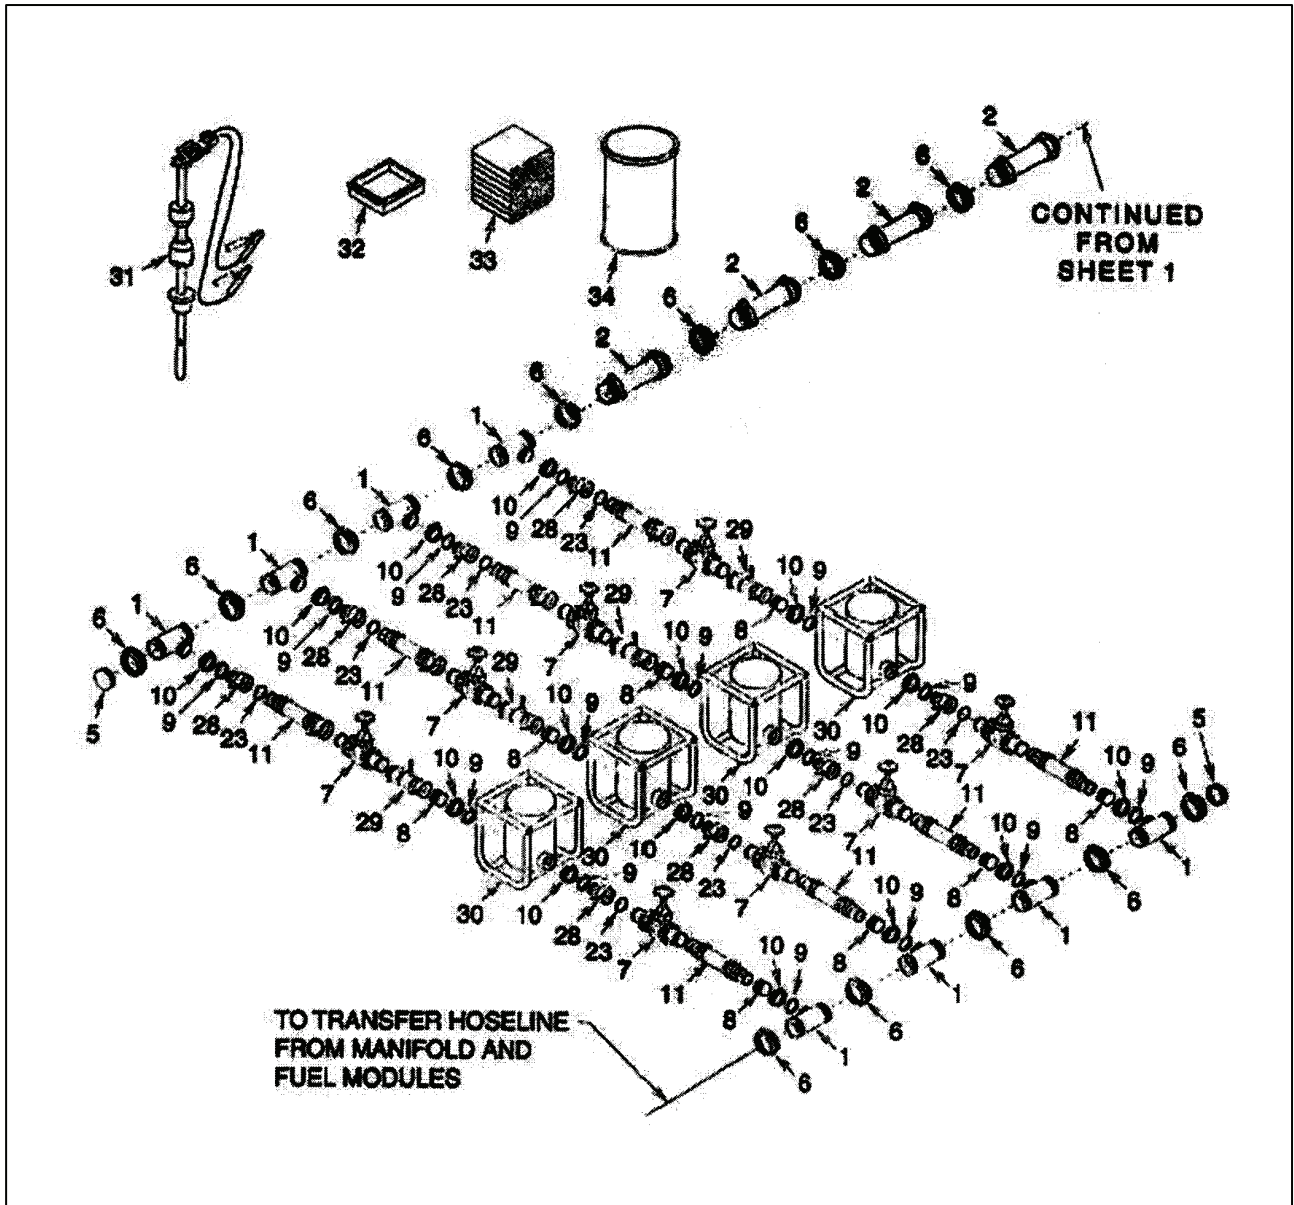

Figure 3
- (1) Connect 4-inch x 25-foot hoses (11) cam lock to Tees (1) using coupling clamps (10), gaskets (9), coupling adapters (28), and gaskets (23).
- (2) Connect 4-inch gate valves (7) to hoses (11).
- (3) Connect water detection kit adapter (29) to gate valve (7)
- (4) Install, service, and prepare the filter separators (30) in accordance with TM 5-4330-211-12.
- (5) Connect filter separators (30) to water detection kit adapters (29) using couplings (8), gaskets (9), and coupling clamps (10).
- (6) Connect 4-inch gate valves (7) to filter separators (30) using coupling clamps (10), gaskets (9), coupling adapters (28), and gaskets (23).
- (7) Connect 4-inch x 25-foot hoses (11) cam lock to gate valves (7).
- (8) Connect hoses (11) to tees (1) using couplings (8), gaskets (9), and coupling clamps (10).
- h. Locate and install ground rod (31).
- i. Place eight each, drip pans (32), two each, oil absorbent material (33), and two each, storage drums (34) where they will be available for use when needed.
10. Assemble tanker truck receipt manifold (Figure 3).
- a. Place the four unloading points (12), (10), (9), (13), (14), (15), and (16).
- b. Start in the center of the unloading zone by assembly of the suction manifold. Use two 6-inch tees (4) and four 6-inch gate valves (3), position the manifold far enough off the access road to allow that the 4-inch suction hoses to reach the tanker trucks.